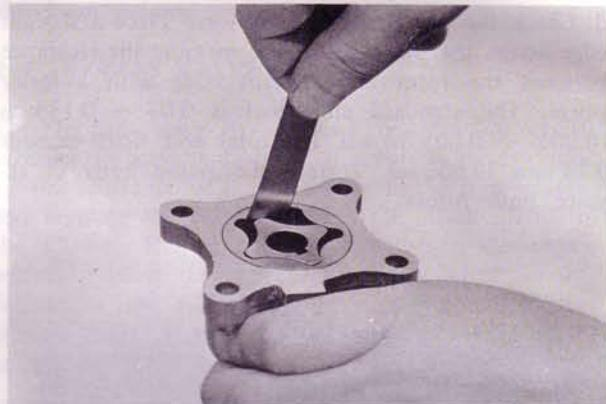

Fig. 2-3 Checking rotor clearance
1. Check the clearance between the lobes of the rotors with a feeler gauge, as shown in Fig. 2-3. The standard clearance is $0.01 \sim 0.09$ mm ($0.0004 \sim 0.0035$ in). If the clearance exceeds **0.15 mm (0.006 in)**, replace both inner rotor and outer rotor.